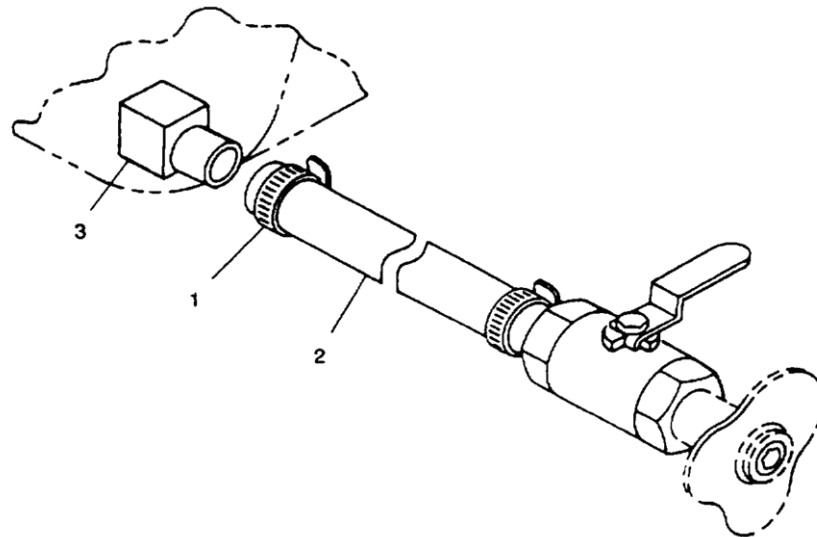
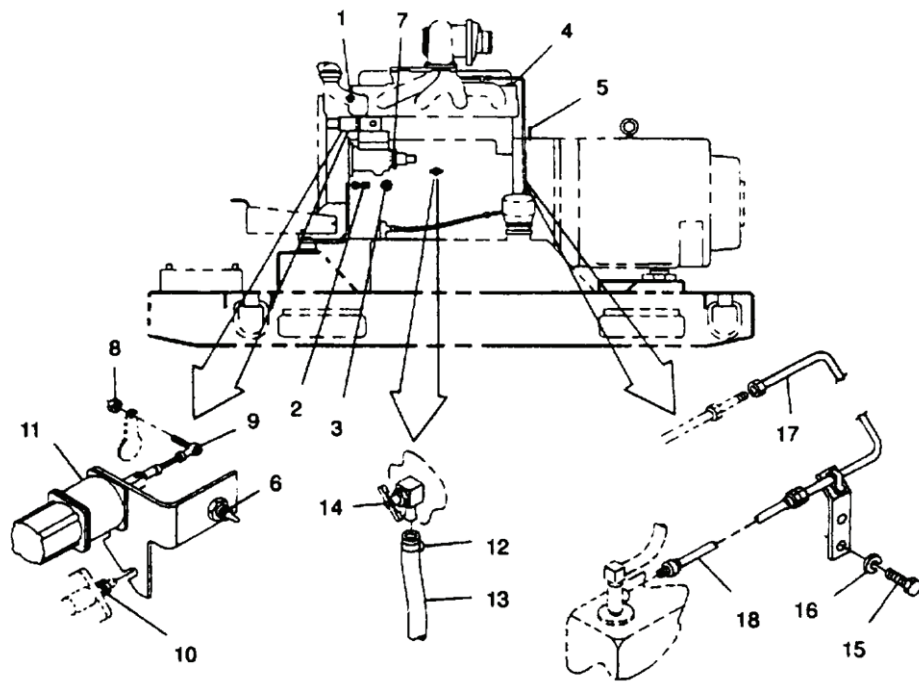
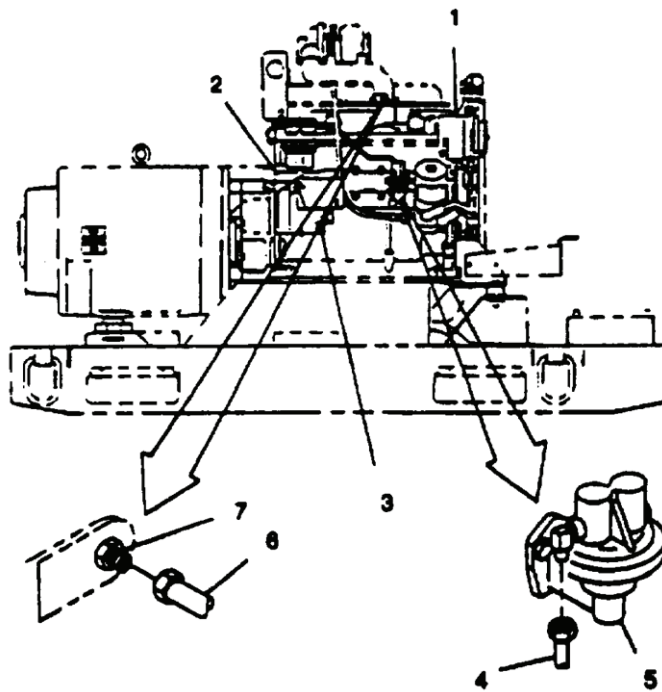
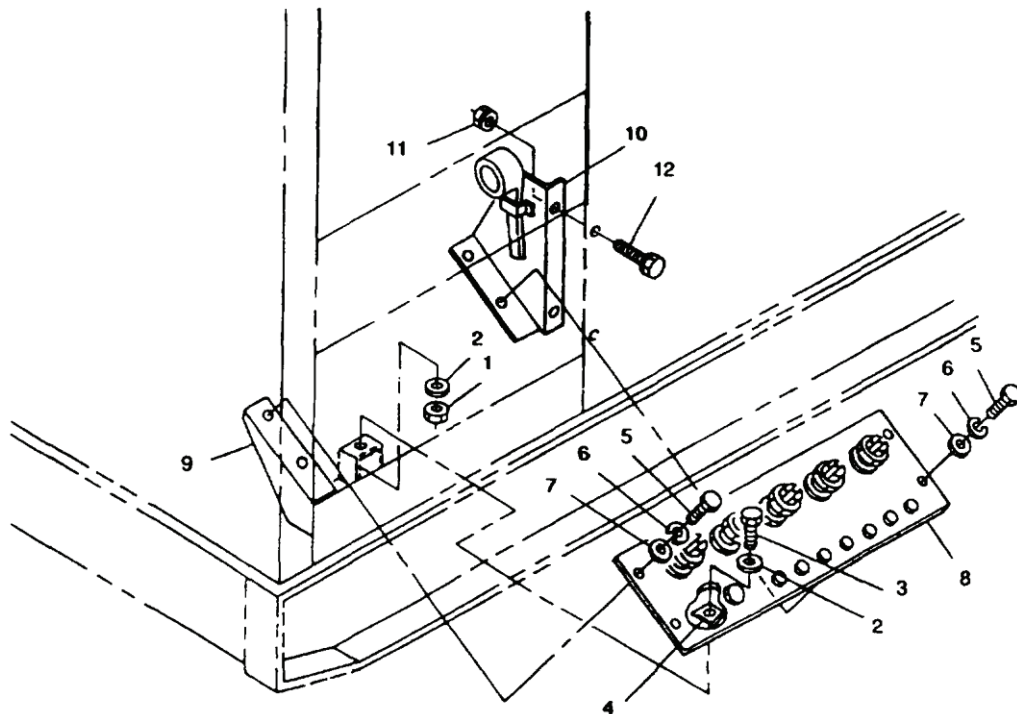

Figure 10. Oil Drain Hose.
Figure 11. Left Side Engine.
Figure 12. Right Side Engine.
Figure 13. Load Output Terminal Board.
33. Loosen clamp (5) and connect hose (6) from tube (2). Remove tube (2) and hump hose (4) as an assembly.
34. Loosen clamp (Figure 10, Item 1) and disconnect oil drain hose (2) from adapter (3).
35. On left side of engine, tag and disconnect electrical leads from coolant high temperature switch (Figure 11, Item 1), low oil pressure switch (2), oil pressure sender (3), coolant temperature sender (4), magnetic pickup (5), DEAD CRANK switch (6), and fuel injection pump (7).
36. Remove nut (8) from rod end (9). Loosen nuts (10) and remove governor actuator assembly (11) with wiring harness attached. Place out of the way.
37. Loosen clamp (12) and disconnect coolant drain hose (13) from engine block coolant drain valve (14).
38. Remove bolt (15) and lockwasher (16) securing fuel return line (17) to engine block. Discard lockwasher (16).
39. Disconnect fuel line (17) at injectors excess fuel line, and fuel hose (18) at fuel tank. Remove line (17) and hose (18) as an assembly. Cap openings.
40. Open right side engine access doors, tag and disconnect electrical leads from battery charging alternator (Figure 12, Item 1), starter solenoid (2), and starter motor (3).
41. Disconnect fuel line (4) at fuel pump (5). Cap openings.
42. Disconnect tube (6) from ether start spray nozzle (7) at intake manifold.
43. Remove nut (Figure 13, Item 1) lockwashers (2), and bolt (3) securing ground strap (4) to skid base. Discard lockwashers (2).
44. Remove bolts (5), washers (7), and lockwashers (6) securing load output terminal board assembly (8) to supports (9 and 10). Pull load output terminal board assembly (8) out through access door. Discard lockwashers (6).
45. Remove assembled nuts (11), bolts (12), and support (10) from right side panel.
14. Install support (Figure 13, Item 10) on right side panel with bolts (12) and assembled nuts (11).
15. Install load output terminal board assembly (8) on supports (9 and 10) with bolts (5), new lockwashers (6), and washers (7).
16. Secure ground strap (4) to skid base with bolt (3), new lockwashers (2), and nut (1).
17. Connect tube (Figure 12, Item 6) to ether start spray nozzle (7) at intake manifold.
18. Connect electrical leads to battery charging alternator (1), starter solenoid (2) and starter motor (3) on right side of engine, and remove tags.
19. Remove caps and connect fuel line (4) to engine fuel pump (5).
20. Remove caps and position fuel line (Figure 11, Item 17) and hose (18) in generator set. Connect line (17) to injectors excess fuel line, and hose (18) to fuel tank.
21. Secure fuel line (17) to engine block with bolt (15) and new lockwasher (16).
22. Connect coolant drain hose (13) to engine block coolant drain valve (14) and tighten clamp (12).
23. Install governor actuator assembly (11) to engine assembly with nuts (10), and connect rod end (9) with nut (8).
24. On left side of engine, connect electrical leads to fuel injection pump (7), DEAD CRANK switch (6), magnetic pickup (5), coolant temperature sender (4), oil pressure sender (3), low oil pressure switch (2), and coolant high temperature switch (1). Remove tags.
25. Connect oil drain hose (Figure 10, Item 2) to adapter (3) and tighten clamp (1).